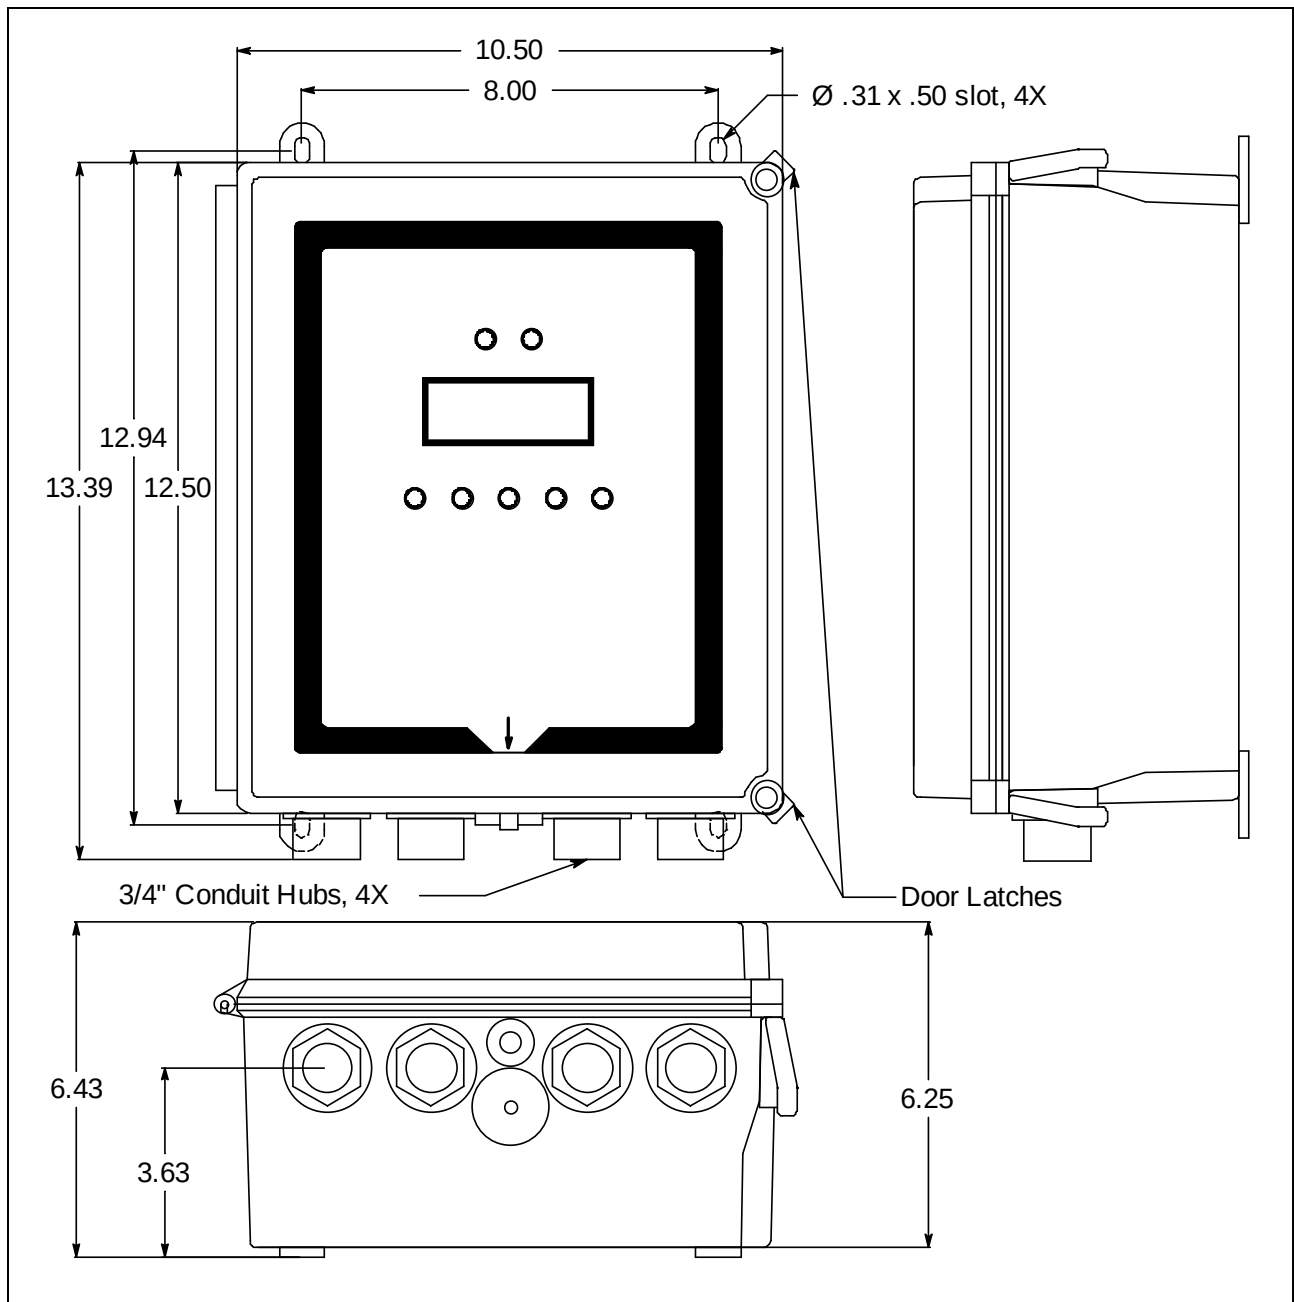

Figure 9: Beacon 410A Gas Monitor Outline and Mounting Dimensions
The Beacon 410A can be ordered with an alarm strobe light installed on the top of the housing. The Beacon 410A retains its NEMA 4X rating with the strobe installed. Strobe operation can be programmed in Configuration Mode (see “Chapter 6: Configuration Menu” on page 47). The outline and mounting dimensions with the alarm strobe are the same as the standard Beacon 410A with the exception of the height. The difference is shown below. See Figure 9 for all outline and mounting dimensions.
3. The Beacon 410A is shipped with the mounting feet positioned under the housing. Loosen the screws that secure the feet to the housing, rotate the feet to their mounting position as shown in Figure 9, then tighten the screws.
4. Prepare the selected mounting site as required to mount the Beacon 410A. It should be mounted at eye level (4 1/2 to 5 feet from the floor). Refer to Figure 9 for the outline and mounting dimensions.